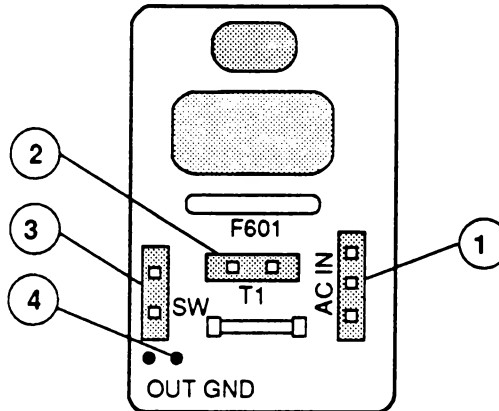

FIGURE 5
- AC IN (Figure 5, #1)
- T1 (Figure 5, #2)
- SW (Figure 5, #3)
6. Unsolder the green ground wire (Figure 5, #4) from the line filter board at the marking "OUT GND."